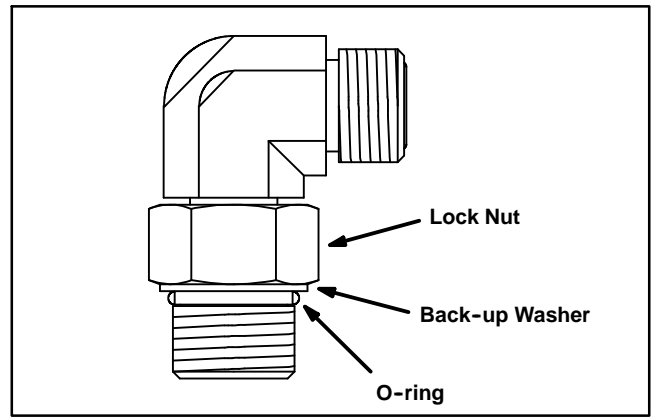

Figure 8
**Adjustable Fitting (Fig. 8)**